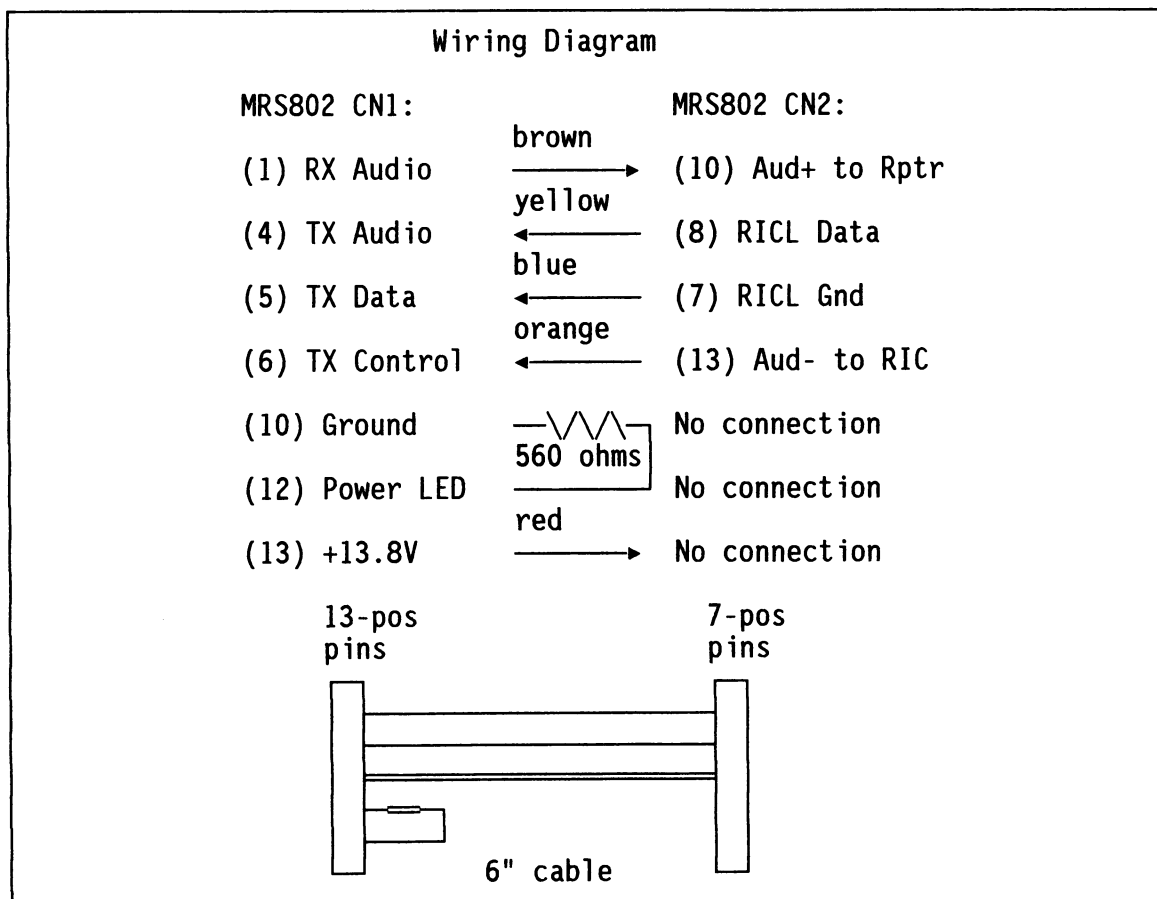

Figure 4-22. Zetron/Uniden MRS802 Jumper Cable (P/N 709-7147)
- [] 3. Connect the Zetron jumper cable (in the 709-7147 cable kit) between CN1 and CN2. The 7-position Zetron jumper connects its orange wire to CN2's orange wire. The 13-position end connects its red wire to CN1's red wire. See Figure 4-22.